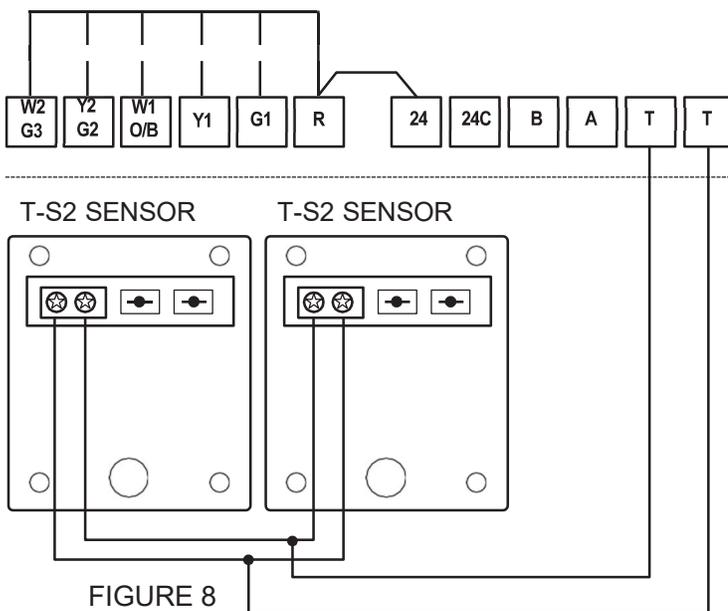

FIGURE 8
Multiple sensors can be connected to the 'T' and 'T' terminals if temperature averaging is required with or without the sensor in the thermostat. The total value of remote sensors wired in series/parallel must equal $10k\Omega @ 77^\circ F$. The onboard sensor is not part of the equation. Figure 8 shows (2) T-S2 sensors used for averaging.